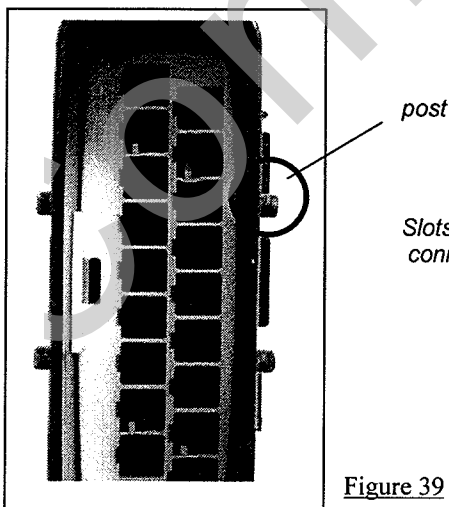
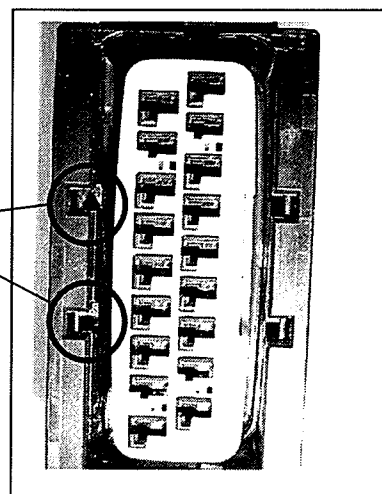

Figure 39
Figure 39b:
- d) Position the female connector so that the four posts of the male connector (figure 39) engage with the female connector's slots as shown in figure 39b and 39c.